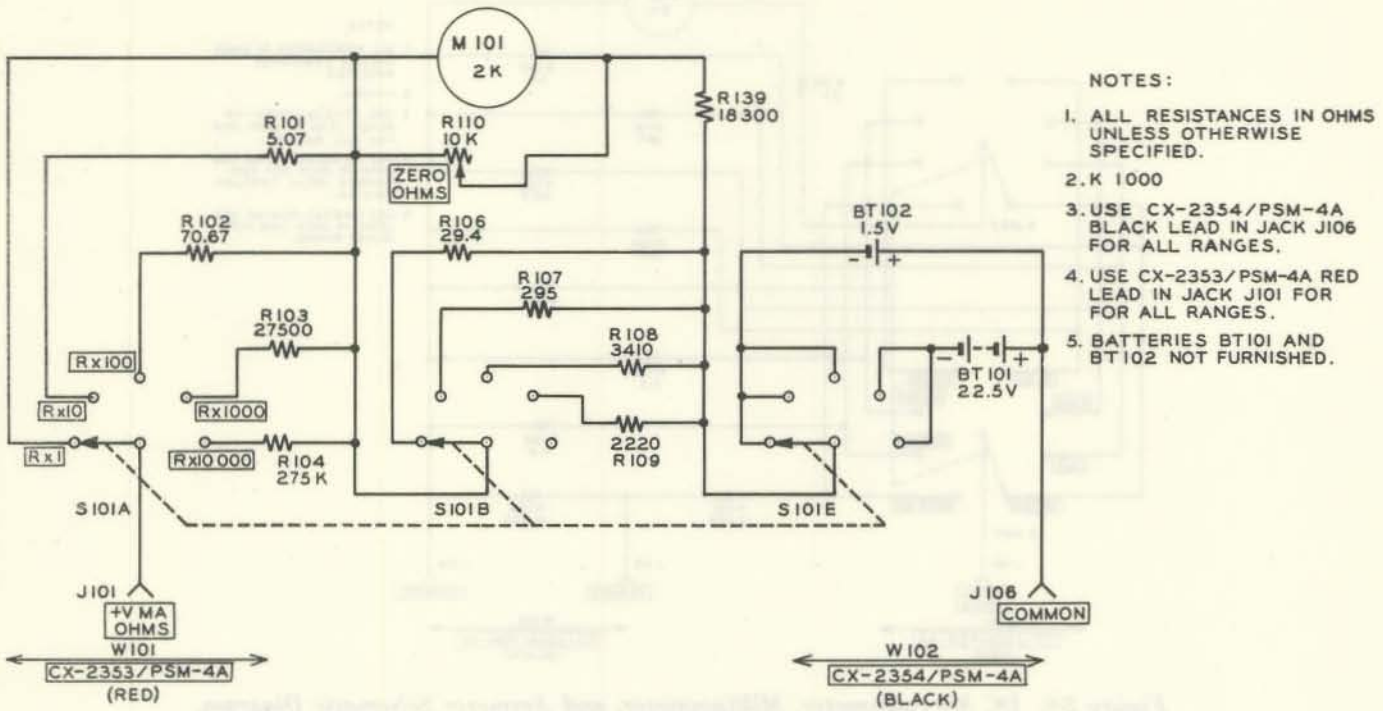

Figure 2-10. Ohmmeter Circuit Schematic Diagram.
(3) 5 MA RANGE.—When you set range switch S-102 at 5 MA, you connect resistor R-132, 50.5 ohms, in parallel with the 5000 ohm meter circuit. The equivalent circuit resistance is 50 ohms. When the circuit current is 5 milliamperes, there is a 250 millivolt drop across the circuit, and the meter, M-101, will indicate full scale.
(4) 10 MA RANGE. — When you set range switch S-102 at 10 MA, you connect resistor R-133, 25.1 ohms, in parallel with the meter circuit. The equivalent circuit resistance is 25 ohms. When the total circuit current is 10 milliamperes, there will be a 250 millivolt drop across the instrument circuit, and the meter, M-101, will read full scale.
(5) 50 MA RANGE. — When you set range switch S-102 at 50 MA, you connect resistor R-134, 5 ohms, in parallel with the meter circuit. The 5 ohm resistance is so small compared to the meter circuit resistance of 5000 ohms that the total effective circuit resistance is 5 ohms. When the circuit current is 50 milliamperes, it will cause a 250 millivolt drop across the instrument circuit. Meter M-101 will indicate full scale.
(6) 100 MA RANGE. — When you set range switch S-102 at 100 MA, you connect resistor R-135, 2.5 ohms, in parallel with the meter circuit. The total effective circuit resistance is 2.5 ohms. When the current is 100 milliamperes, the voltage drop is 250 millivolts, and the meter, M-101 reads full scale.
(7) 500 MA RANGE.—When you set range switch S-102 at 500 MA, you connect resistor R-136, 0.5 ohm, in parallel with the meter circuit. The effective equivalent circuit resistance is 0.5 ohm. When there is a total current of 500 milliamperes flowing through the circuit, there is a voltage drop of 250 millivolts across the instrument circuit. The meter, M-101, will indicate full scale.
(8) 1000 MA RANGE.—When you set range switch S-102 at 1000 MA, you connect resistors R-137, 0.225 ohm, and R-138, 0.025 ohm, in series with each other and in parallel with the meter circuit. The total effective circuit resistance is 0.250 ohm. When the circuit current is 1000 milliamperes (1 ampere), it will cause 250 millivolts drop across the instrument circuit. Meter M-101 will indicate full scale.
(9) 10 AMPS RANGE.—Place Red Test Lead W-101 in the special 10 AMPS jack, J-105, for the 10 ampere range. This connects resistor R-137, 0.225 ohm, in series with the 5000 ohm meter circuit. Effectively, the meter circuit resistance is not affected by this small addition. Resistor R-138, 0.025 ohm, is in parallel with the meter circuit. The total effective circuit resistance is 0.025 ohm. When there is a current with a value of 10 amperes passing through the circuit, there is a drop of 250 millivolts across the instrument circuit. The meter, M-101, will indicate full scale.
e. OHMMETER CIRCUIT. (See figures 2-10 and 6-9).—Resistance is measured with the portion of Multimeter AN/PSM-4A circuits shown in figure 2-10. The overall schematic diagram, of which this is a part,
(1) Rx1 RANGE.—Figure 2-10 shows the circuit connections in Multimeter ME-48A/U when you set function switch S-101 at Rx1. Switch section S-101B connects resistor R-106, 29.4 ohms, in parallel with the meter circuit. Switch section S-101E selects battery BT-102, 1.5 volts. The normal internal resistance in a new type BA-30 battery is about .6 ohm. This is in series with the parallel circuit, so the total circuit resistance is 30 ohms. When the test leads are shorted together, potentiometer R-110 is set so the meter reads full scale to indicate zero ohms. When any resistance is added between the test leads, the circuit current is reduced and the meter does not deflect as far. The markings on the OHMS scale of the meter indicate the amount of resistance which has been added between the test leads.
(2) Rx10 RANGE. — When you set function switch S-101 at Rx10, you connect resistor R-101, 5.07 ohms, in series with the meter circuit, and resistor R-107, 295 ohms, in parallel with the meter circuit. Switch section S-101E selects battery BT-102 for power. The total circuit resistance is 300 ohms for this range. Since the maximum current flow through battery BT-102 is less than it was for the Rx1 range, the terminal voltage will be more than for the lower range. Resistor R-101 drops the difference between the two terminal voltage values so the ZERO OHMS control, R-110, does not have to be reset when the